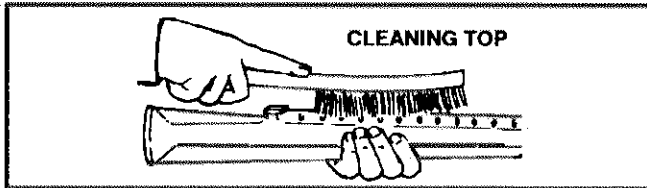

FIGURE 32
- 13— Clean top of burner ports with wire brush. See figure 32.